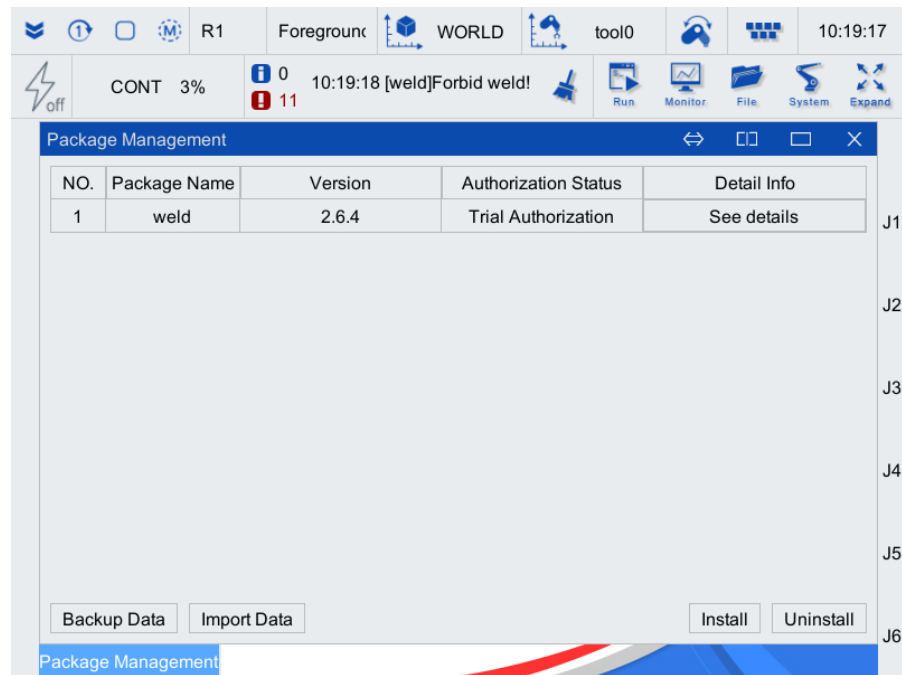

Figure 4-15 "Feature Pack Management" interface
Step2. Click "Package Management" to pop up the feature pack management interface, as shown in Figure 4-15. Check the "Authorization Status" to determine whether the authorization is successful.